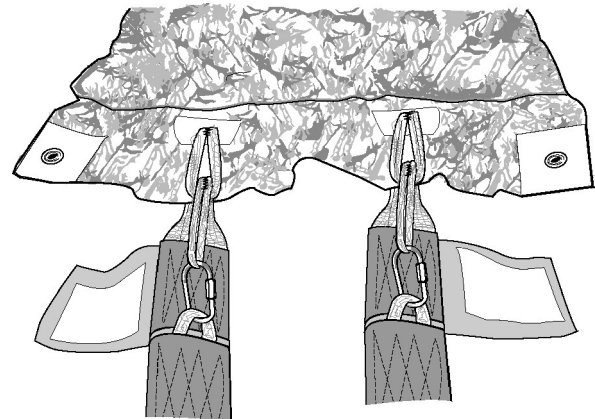

Figure 8. Attachment of Risers Module
c. Pass large soft link through soft link riser attachment holes. Pass small riser soft link loop through large soft link loop, route small riser soft link loop onto rapide link (Figure 8).